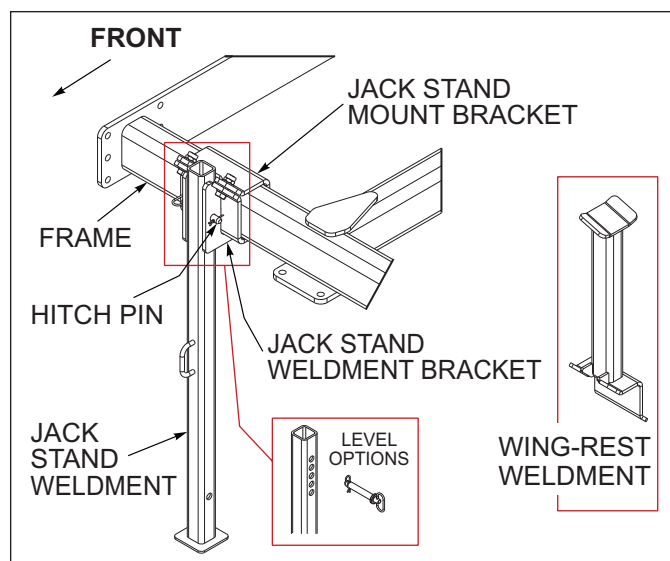

Figure 3-1: Front Jack Stand
2. Insert the Jack Stand Weldment into the Jack Stand Weldment Bracket with the handle facing out and pin at desired level (top five holes), with 3/4 x 4 Hitch Pin and Hair Pin. (*See Figure 3-1.*)
1. With the Jack Stand Weldment Bracket positioned on the bottom side of the front Frame, (clamp facing out), attach the appropriate Wing-Rest Weldment using 3/4-10 x 2 Bolts, 3/4 Flat Washer and 3/4-10 Locknut. (The Wing-Rest Weldments have right hand and left hand designations. The left hand Wing-Rest Plate Stops slope down toward the left and the right hand Wing-Rest Plate Stops slope down toward the right. See Parts Manual for Wing-Rest Weldments according to model number.) (*See Figure 3-1.*)